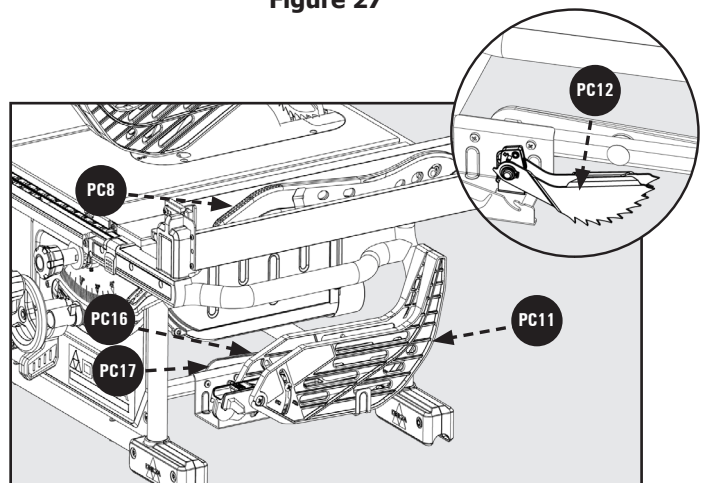

Figure 28
3. Detach the on-board Wrenches **located on the right side of the Saw** behind blade guard storage in Figure 28 by loosening and removing M8 Wing Nut.
Right Side Storage Figure 28: